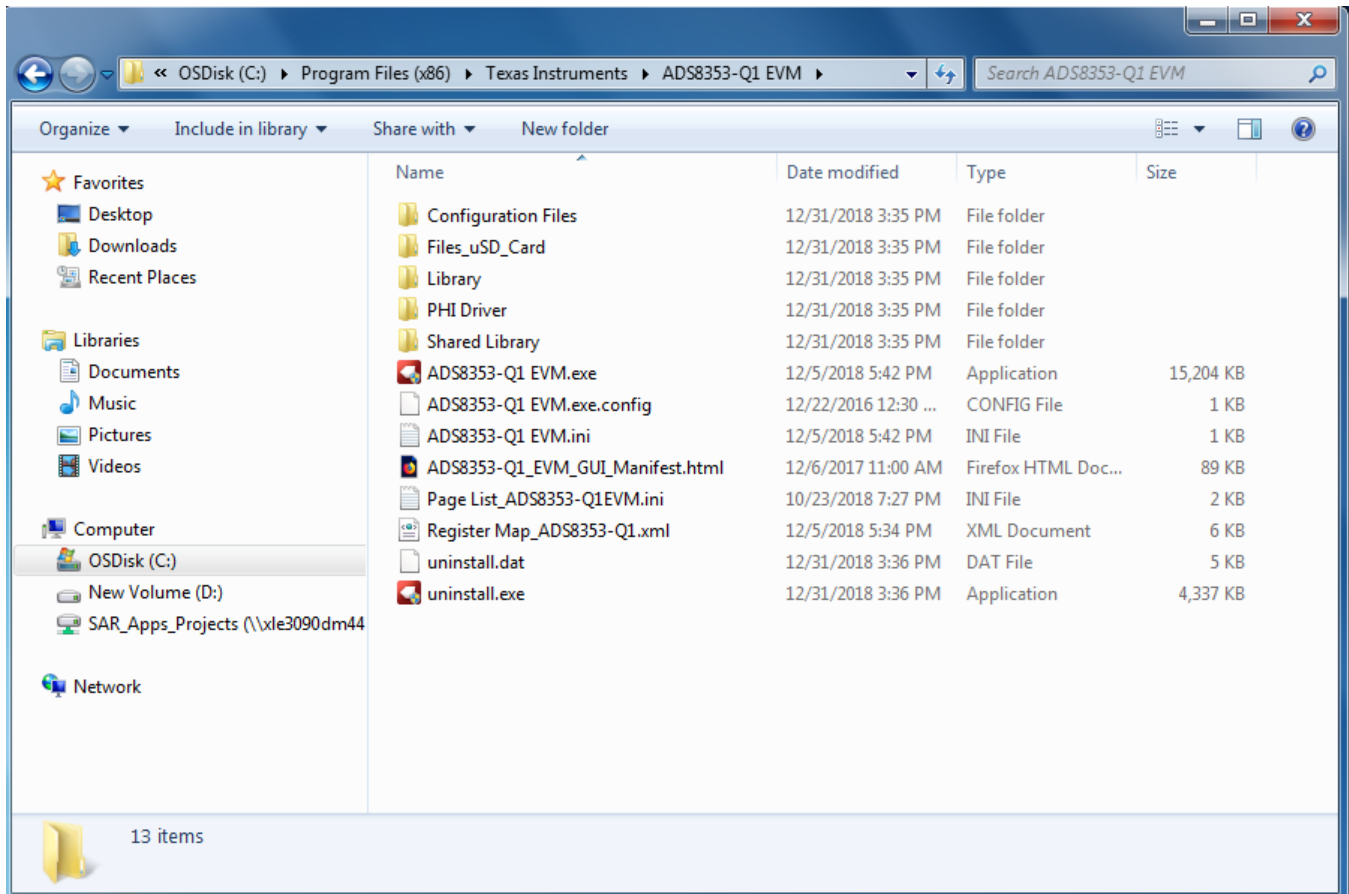

Figure 8. Launch the EVM GUI Software
3. Launch the device EVM GUI software from the installed path, as Figure 8 shows, or by using the desktop shortcut created during installation.